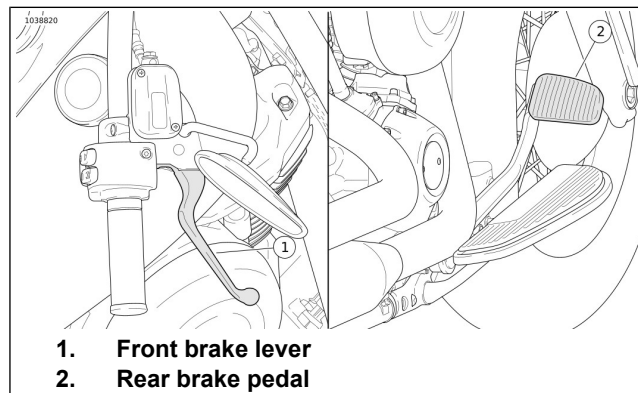

Figure 37. Brake Controls
See Figure 37. The front brake hand lever (1) controls the front wheel brake. The brake lever is located on the right handlebar. Operate the hand lever with the fingers of the right hand.
See Figure 37. The rear brake pedal (2) controls the rear wheel brake. The brake pedal is located on the right side. Operate the rear brake pedal with the right foot.